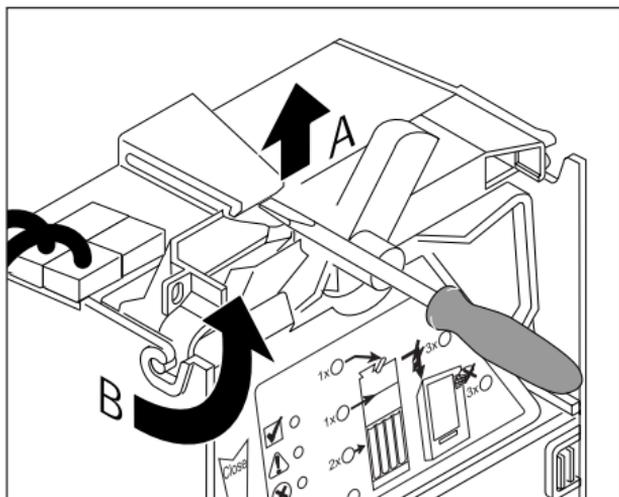

Fig. 6a: Folding out the coin validator
- 1 Fold the coin validator out of the changer (see Fig. 6a).